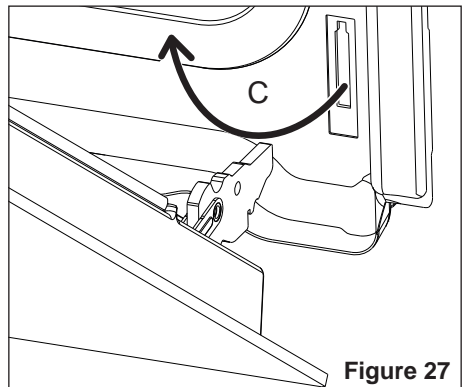

Figure 27
- Withdraw the hinge hooks from their location following arrow "C" (fig. 27).